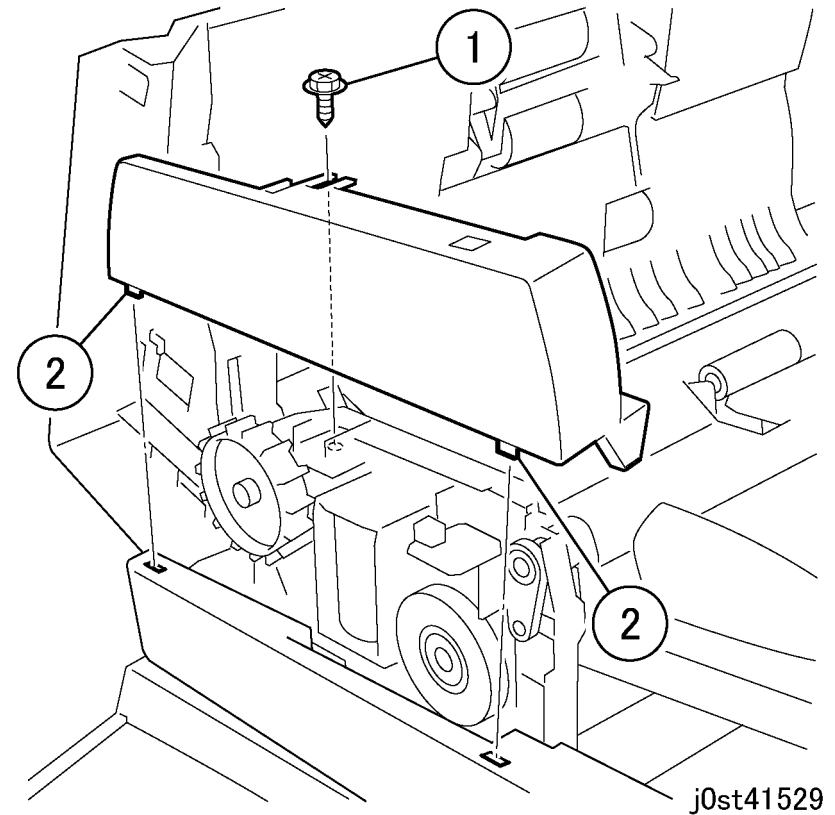

Figure 1 Removing the DADF Front Cover (j0st41529)
2. Remove the DADF Front Cover. (Figure 1)